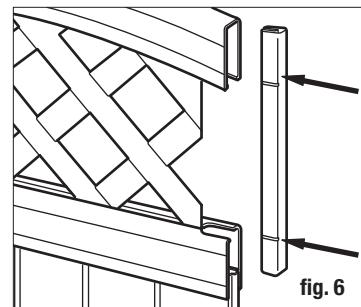

fig. 6
- Insert the lattice channels on both ends of the lattice between the top rail and H-rail (fig. 6).